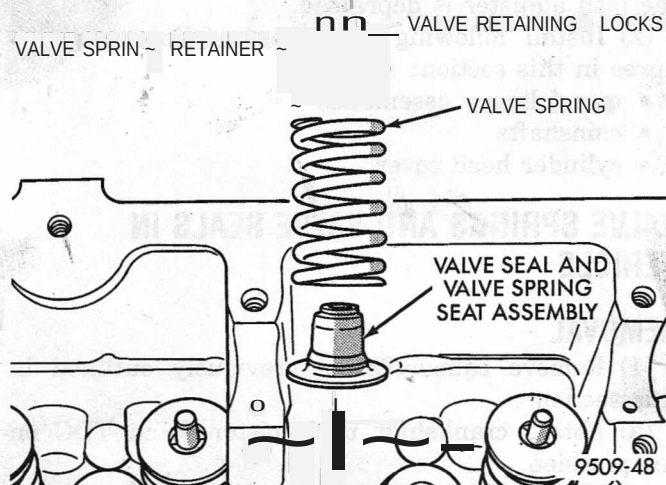

fig. 49 Valve Stem Seal/Valve Spring Seat
(1) Install valve seal/valve spring seat assembly (Fig. 49). Push the assembly down to seat it onto the valve guide.